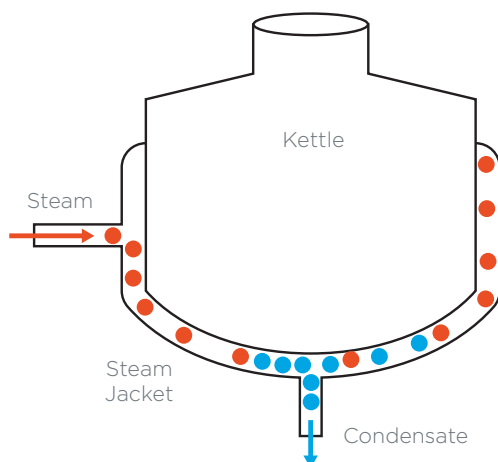

Figure 12. Configuration of a Jacketed Kettle Heat Exchanger
**Jacketed heat exchangers.** Jacketed heat exchangers use an enclosure to surround the vessel that contains the heated product. A common example of a jacketed heat exchanger is the jacketed kettle. A representation of a jacketed heat exchanger is shown in Figure 12. Jacketed heat exchangers are practical for batch processes and for product types that tend to foul or clog tube bundles or coils.